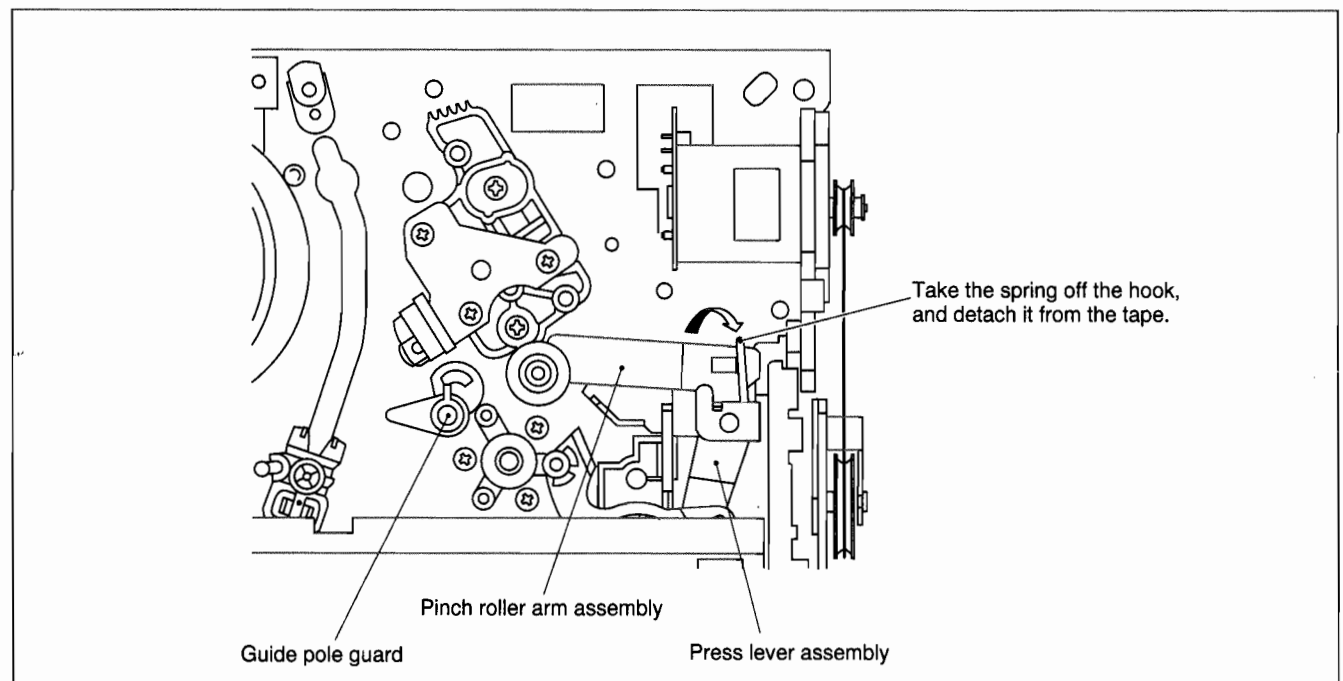

Fig. 2-1-4
- (3) Take the spring of the pinch roller arm assembly off the hook of the press lever assembly, and detach it from the tape. (See Fig.2-1-4.)
- (4) In the same way as in the electrical failure instructions in 2.1.3 (4), remove the top guide.
- (5) Raise the cassette tape cover. By keeping it in that position, draw out the cassette tape case from the cassette holder and take out the tape.
- (6) By hanging the pinch roller arm assembly spring back on the hook, take up the slack of the tape into the cassette.